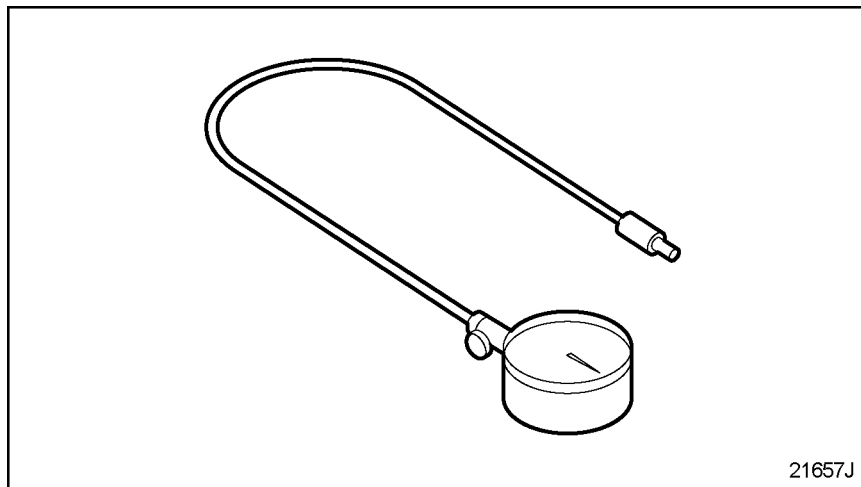

Figure 3-2 Attach Cylinder Compression Gauge J 6692-B
19. Attach cylinder compression gauge (J-6692-B) to the first adaptor. See Figure 3-2.